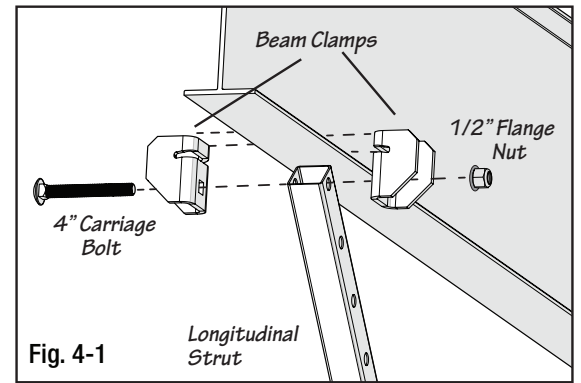

Fig. 4-1
- Raise the longitudinal strut upward and position it between the two beam brackets as shown right in Fig. 4-1.